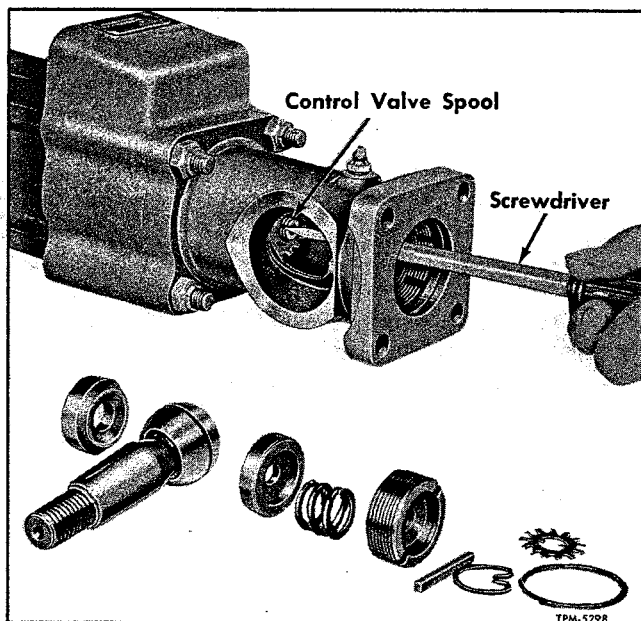

Figure 12—Booster Cylinder Control Valve Spool Adjustment
5. Start engine and operate at fast idle (approximately 600 to 700 rpm) to operate power steering hydraulic pump. Insert a screwdriver in position in slot of spool as shown in figure 12. Hold the centering nut firmly in position, and adjust the spool until the rod is in 1/2 extended position. To do this turn the spool clockwise to retract or counterclockwise to extend the rod. The spool is centered when the rod does not creep in either direction.